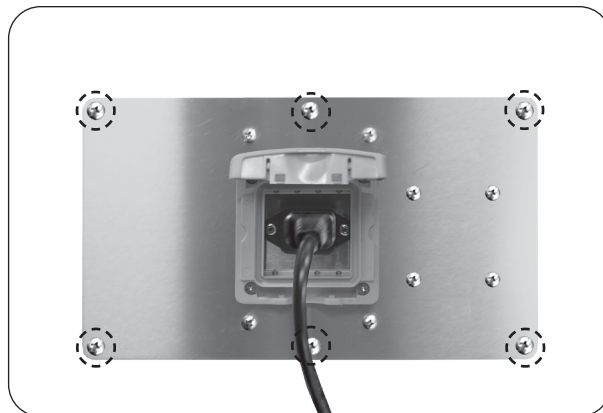

Fig. 39-1 Remove 6 large screws
2. Using a phillips screwdriver, remove the 6 large screws found on the cover of the power supply box (see Fig. 39-1).